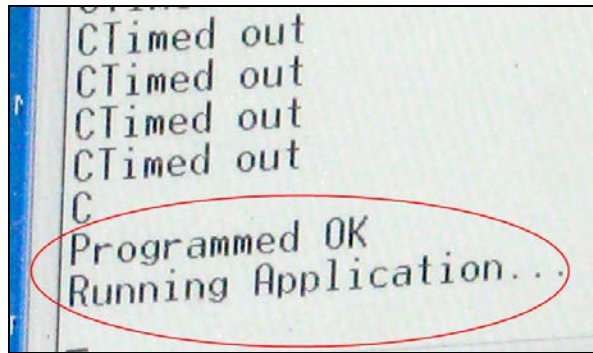

Fig.26
10. When completed, the download screen will display a "Programmed OK" message; this will complete the download procedure (Fig.26).